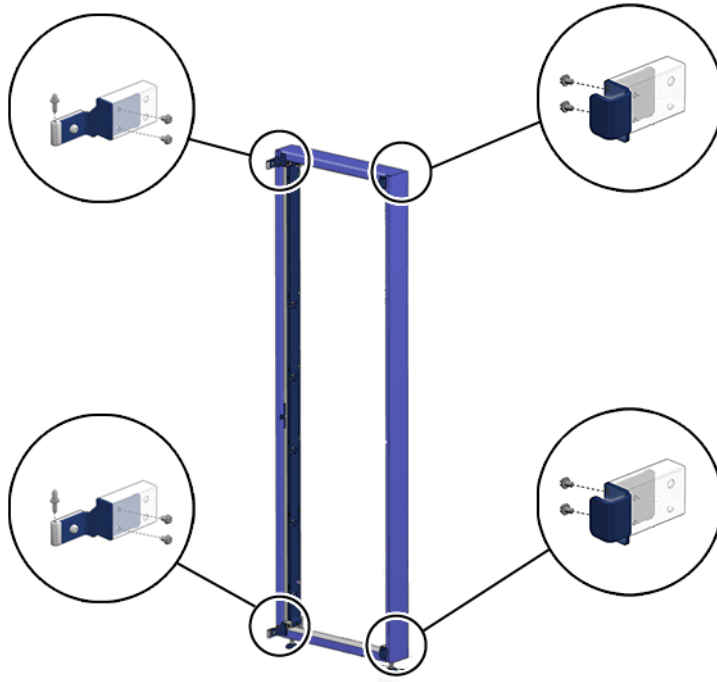

FIGURE 4-6 Installing the Silver Alloy Hinges and Latches on the Cabinet Extension
8. Install the two black latches on the right front of the cabinet extension (FIGURE 4-6).